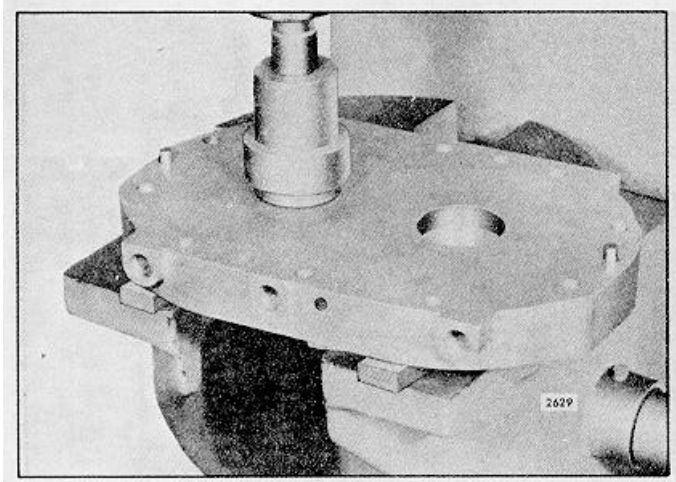

FIG. 10 - Installing Oil Seal Ring Collar in End Plate with Tool J 6270-3
- f. Support one of the blower end plates, inner face up, on wood blocks on the bed of an arbor press as shown in Fig. 10.
- h. Place the oil seal ring collar installer J 6270-3 on top of the seal ring collar and under the ram of the press (Fig. 10). Then press the collar into the end plate until the shoulder on the installer contacts the end plate.